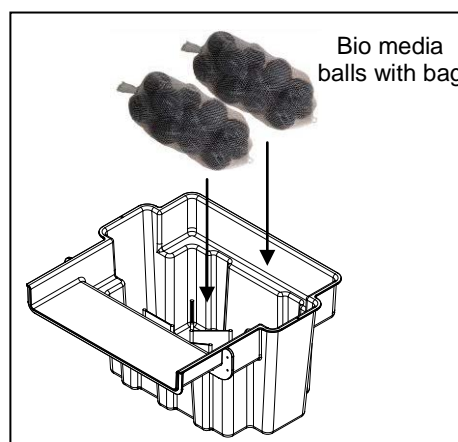

Fig. 11
11. Put bio media balls with bag inside tank Fig. 11